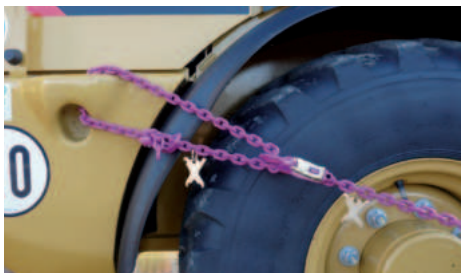

Fig. 8: free not shortened chain strand
- Mount the multi-shortening claw only in the free not shortened chain strand (Fig. 8).